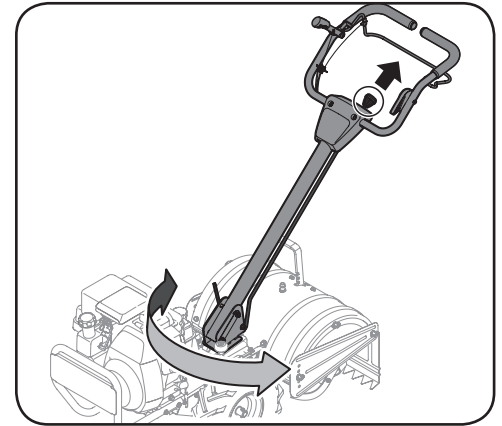

Figure 4-5
1. The tiller handle can be swivelled in either direction. The pivot control handle enables the tiller to be guided sideways to the next row. See Figure 4-5.